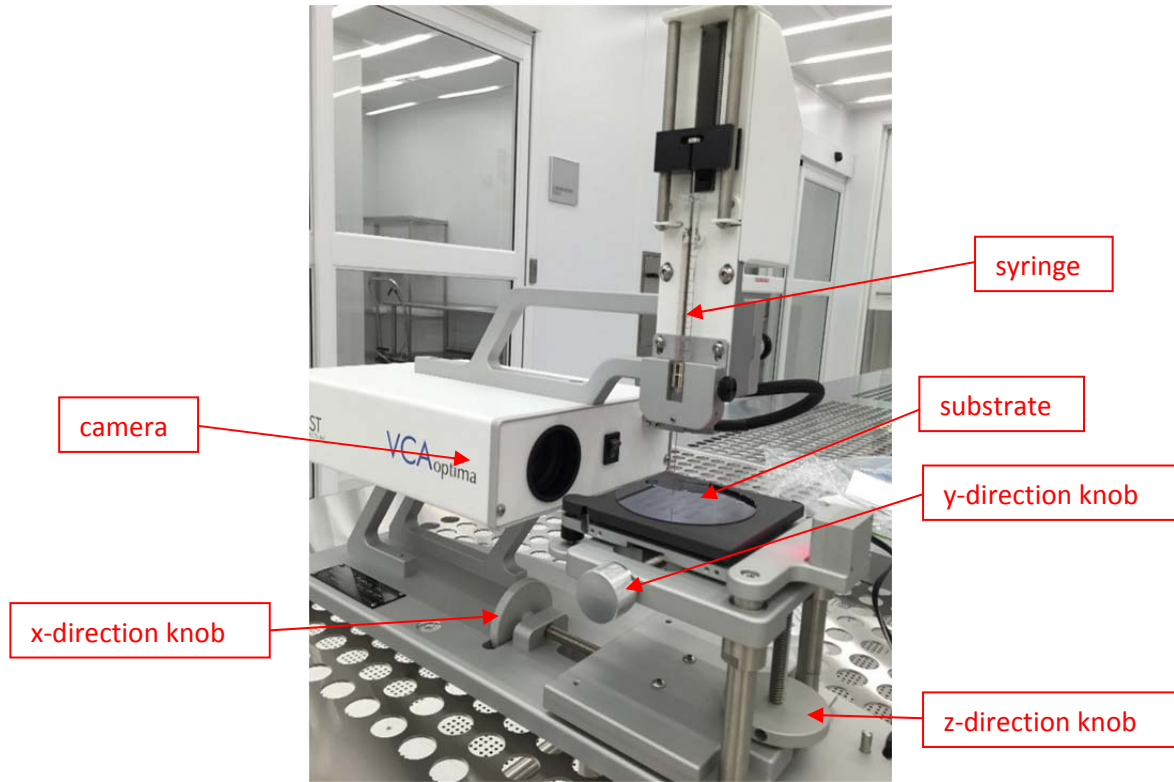

Figure 1 Contact Angle Measurement tool
The VCA Optima Contact Angle Measurement system (Figure 1) incorporates lightweight design, easy assembly, and the latest Windows standards and user-friendly software to create a contact angle instrument that is accurate and easy to use. VCA-optima is suitable for research or quality control in R&D and process engineering. The system integrates contact angle and surface energy evaluation with computer imaging technology to create an easy to use tool that provides accurate, objective results.
- Align the test spot under the syringe needle by using x and y-direction knobs shown in Figure 1. Dispense a drop of liquid. Bring the stage up slowly by adjusting z-direction knob shown in Figure 1 until the drop transfers to the sample, as shown in Figure 7. Do not hit the sample surface with the syringe needle.